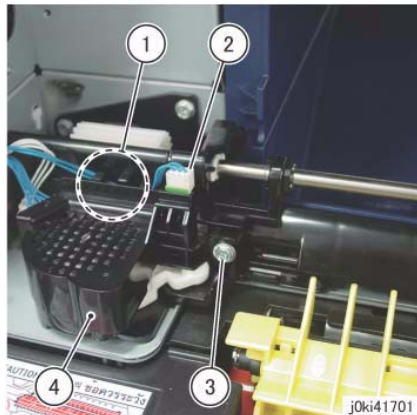

Figure 1 Remove the Motor Cover
4. Remove the Motor Cover. (Figure 1)